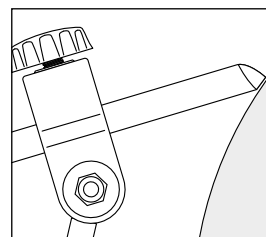
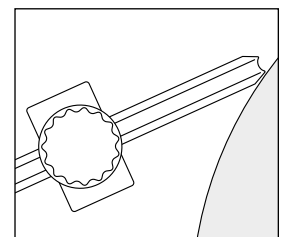

Fig 5
Fig 6
5. To sharpen the tool, locate the shaft (E) in the recess of the support arm mount and carefully apply the tool to the wheel, see **Fig 5**, ensuring contact is kept whilst pivoting the shaft to sharpen all the way round the edge. See **Fig 6**.